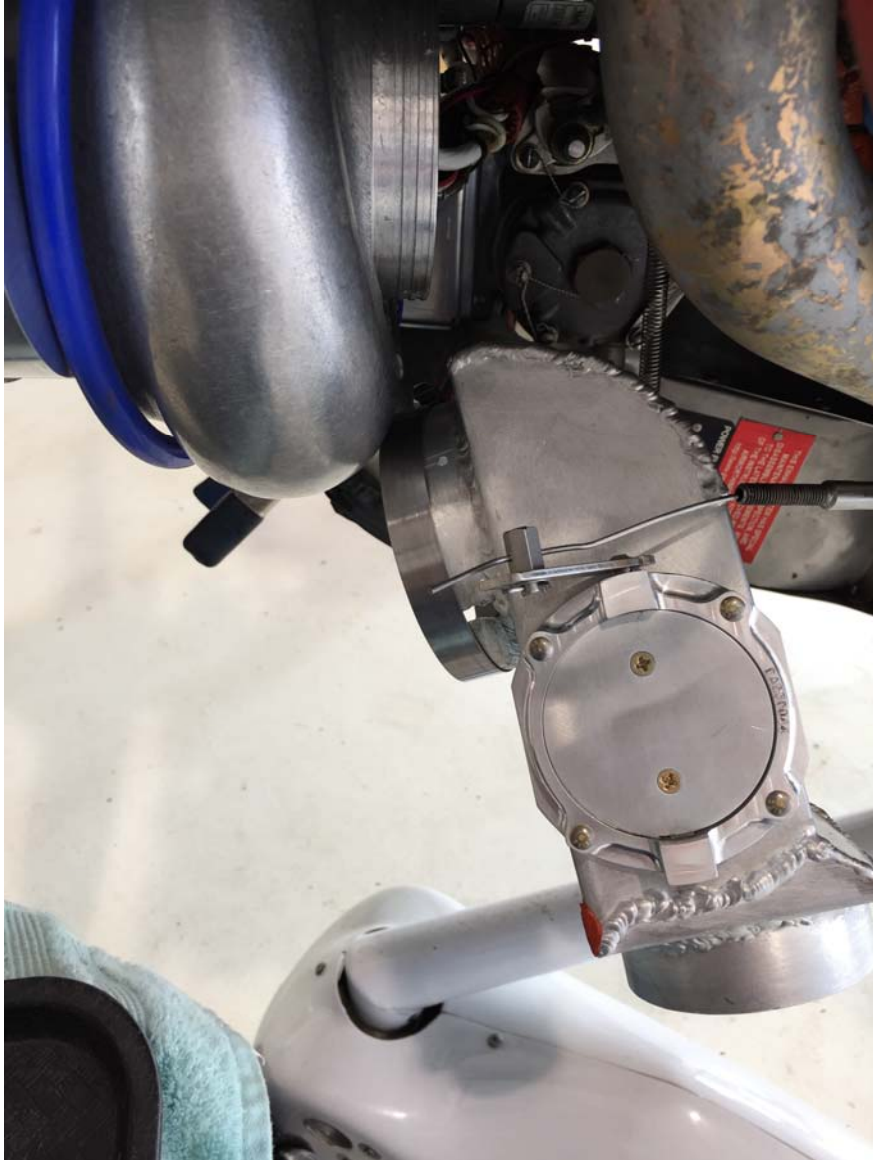

Figure 1
- Remove the SCAT from the bottom of the supercharger airbox and loosen the clamp securing the airbox to the supercharger and remove the airbox. Figure 1.